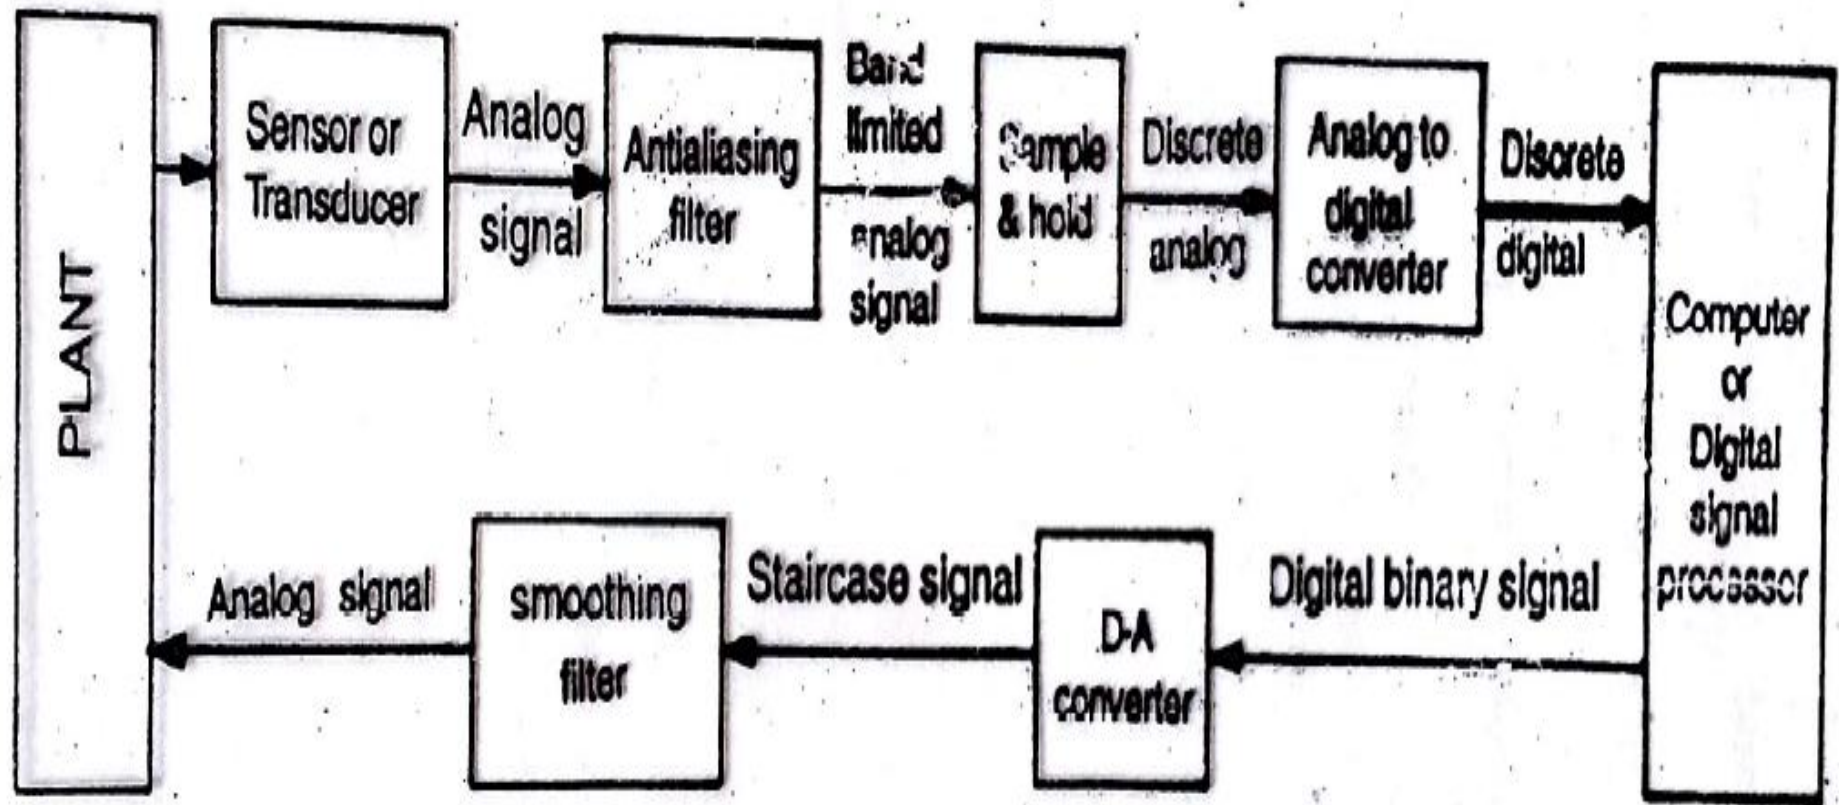

Fig. 10.1 Circuit showing application of A/D and D/A converter
- Figure 10.1, highlights a typical application with in which A/D and D/A conversion is used.
- The scheme given in Figure 10.1 is used either in full or in part in applications such as digital audio recording and playback, computer, music and video synthesis, pulse code modulation transmission, data acquisition, digital multi meter, direct digital control, digital signal processing, microprocessor based instrumentation.